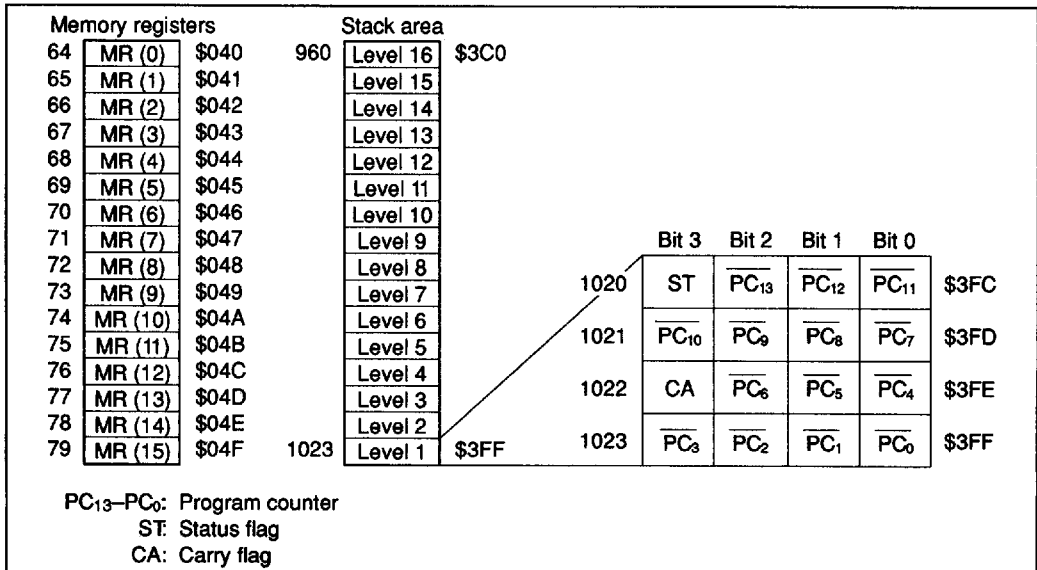

Figure 8 Configuration of Memory Registers and Stack Area, and Stack Position
**Data Area (\$040-\$04F, \$0A0-\$24F):** The memory registers (MR), which are within 16 digits (\$040-\$04F), can also be accessed by the LAMR and XMRA instructions (figure 8).
**Stack Area (\$3C0-\$3FF):** Used for saving the contents of the program counter (PC), status flag (ST), and carry flag (CA) at subroutine call (CAL or CALL instruction) and interrupts. This area can be used as a 16-level nesting subroutine stack in which one level requires four digits. The stack area and data to be saved in it are shown in figure 8.